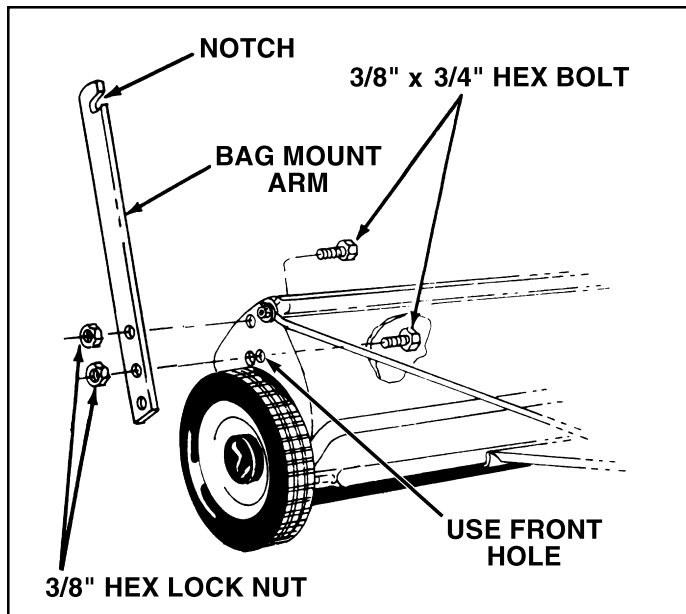

FIGURE 6
11. Assemble the two bag mount arms to the **outside** of the sweeper housing using four $3/8"$ x $3/4"$ hex bolts and $3/8"$ hex lock nuts. Use the **front** hole of the dual position holes in the side of the sweeper housing. The notched side of the bag mount arms **faces upward**. See figure 6.